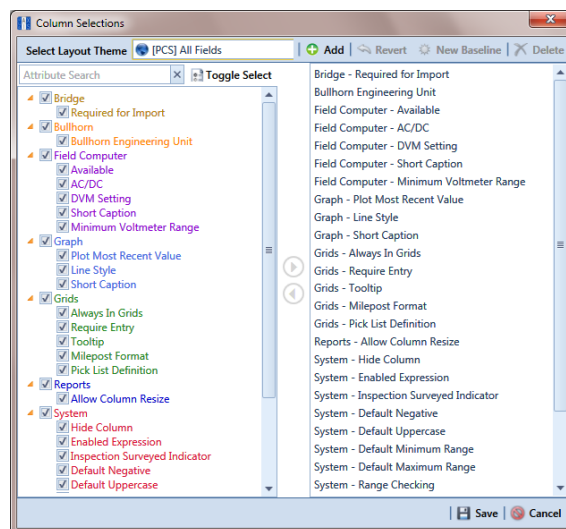

Figure 2-20. Column Selections
- 2 Click  **Customize** to open the *Column Selections* dialog box (Figure 2-20).